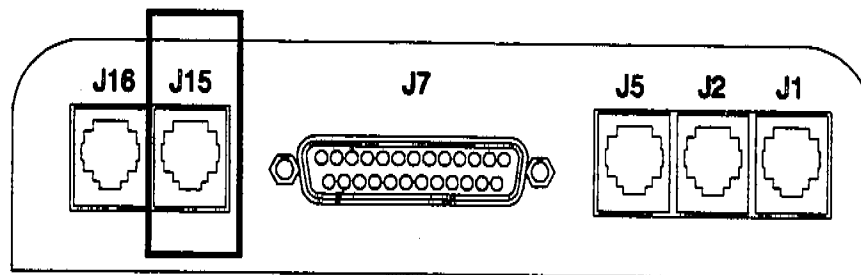

Figure 1 Cable Connections
4. Locate the cable connections on the back of Precept II. Plug the other end of the cable into the connection labeled "J15." See Figure 1.